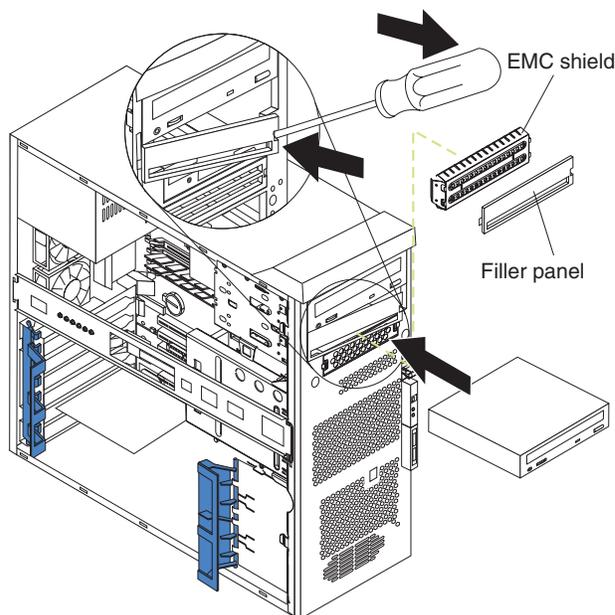

Figure 16. Preparing to install a drive in bay 2
8. If the bay does not have a drive installed, use a screwdriver to pry the filler panel and EMC shield away from the computer (see Figure 16).